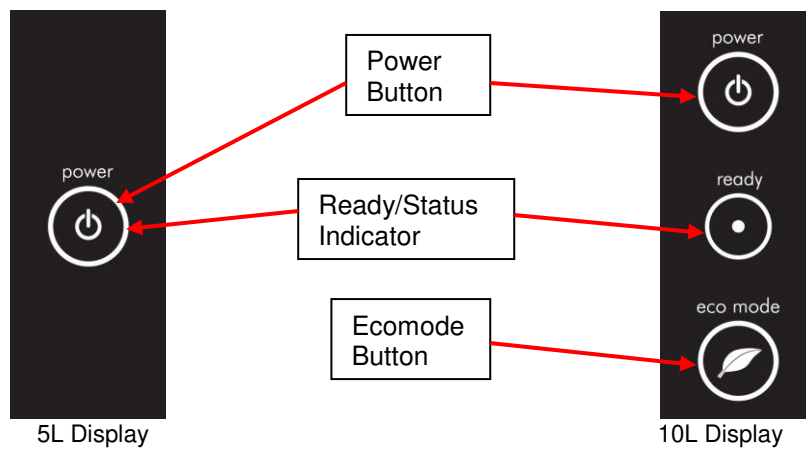

Figure 1: Machine User Interface
- Plug boiler into 13A socket and press power button on the front of the machine marked 'Power'. Refer to Figure 1.